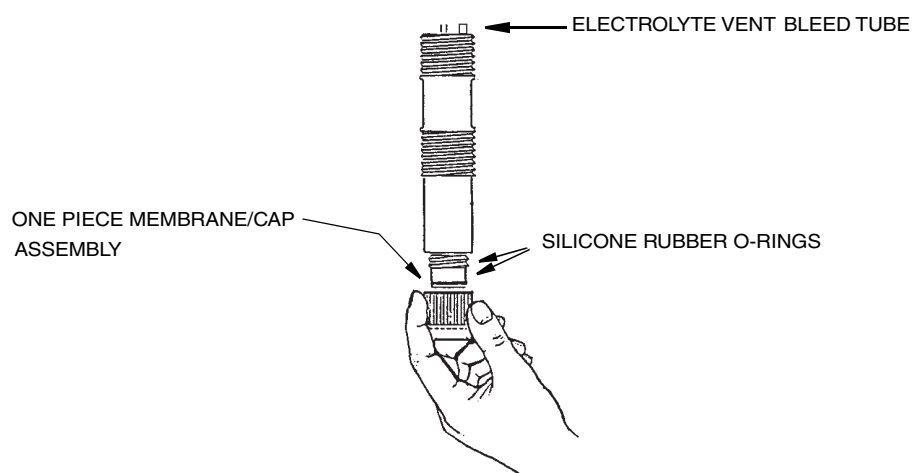

Figure 26. Membrane Cap Removal
3. While holding the sensor assembly vertical (see Figure 26), unscrew the membrane cap assembly from the sensor body. Discard the old membrane cap assembly. To remove old electrolyte, shake sensor down (like a clinical thermometer).
4. Flush the sensor body and electrolyte vent bleed tube (shown in Figure 26) with clean tap water. Ensure that the vent bleed tube is free flowing by seeing that water flows easily through the electrode. Dry assembly with a lintfree cloth or tissue.
5. Inspect O-rings for nicks or wear. Remove and discard damaged O-ring(s) (Part No. X0145CL). (See Figure 26.)